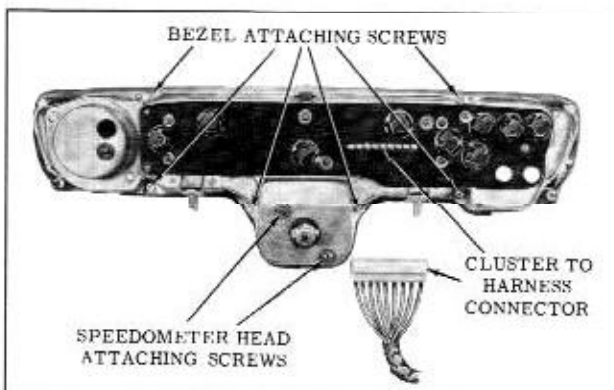

Fig. 12-1 Instrument Cluster Connector
The instrument cluster is of the printed circuit type which eliminates external wiring at each component of the cluster. All of the electrical instruments and lights are connected to the wiring harness by a plug located at the rear of the cluster. (Fig. 12-1)
1. With instrument cluster removed from car, remove the 6 instrument cluster bezel to case attaching screws and remove bezel and face from cluster as shown in Fig. 12-1.
2. Remove the 2 speedometer head attaching screws from the case assembly and remove speedometer head from front of case. (Fig. 12-1)